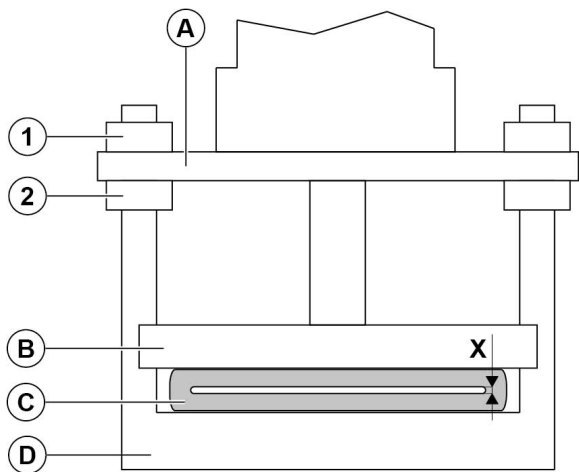
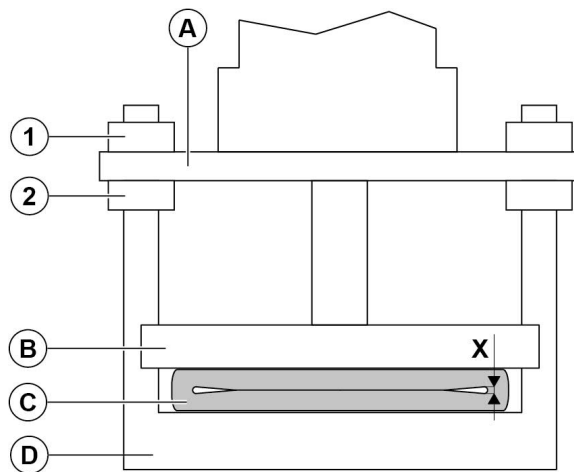

Figure 16.
Figure 17.
10. Adjust the pinch bars parallel to each other with the nuts, which are on both sides of actuator fixing plate (Figure 16, nuts 1 and 2). From one end of the sleeve an even, narrow light strip should be visible on the whole squeezed section of the sleeve or symmetrically on both sides (Figure 16 and Figure 17, dimension X).
If the valve is hand wheel operated, it is enough to check that the pinch bars are parallel, and the light slit is shown (Figure 16 and Figure 17, dimension X).